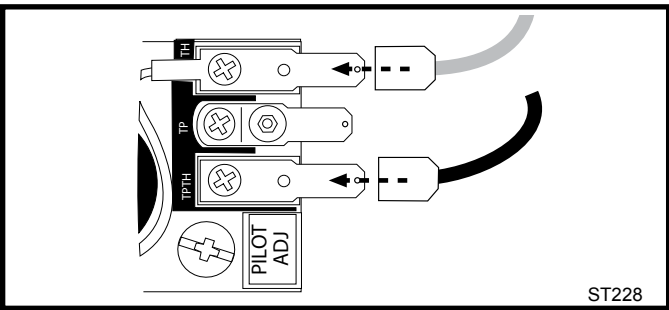

Fig. 56 Attach switch wires to valve.
4. Attach wires to valve terminals. (Fig. 56)
2. Connect the thermostat wires to the valve. (Fig. 56)